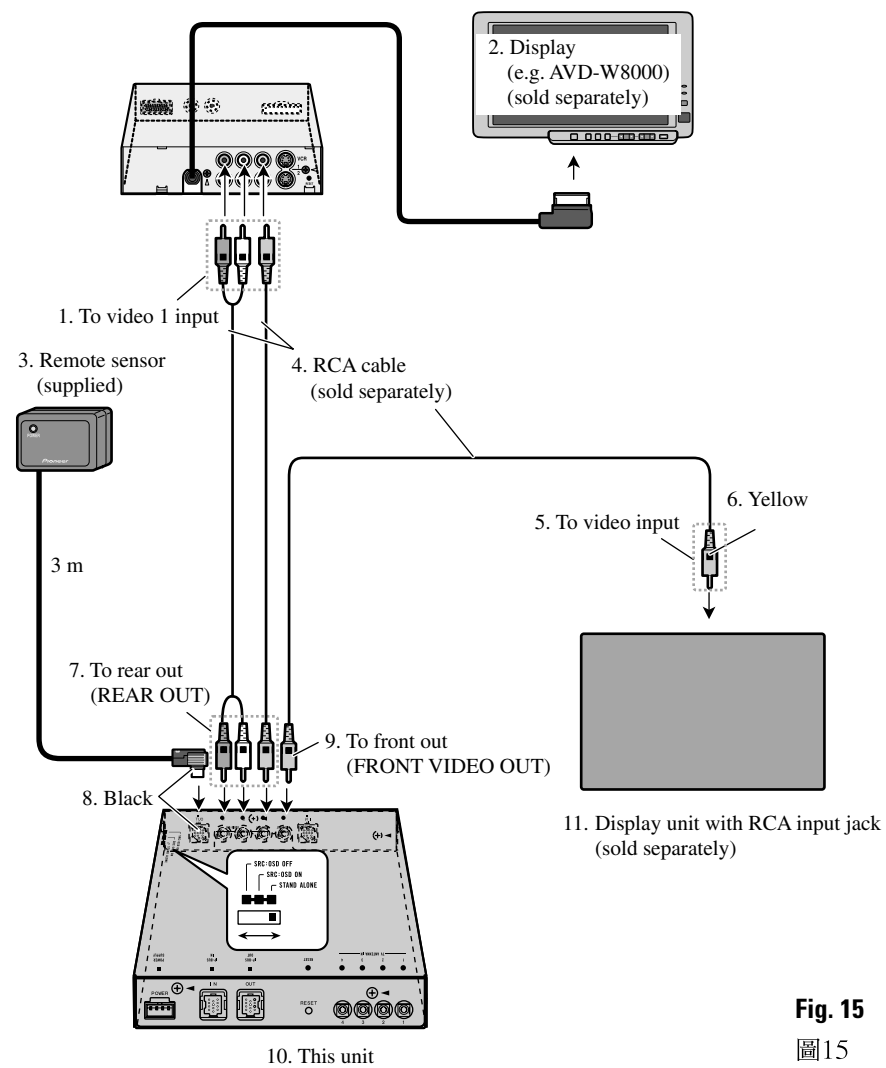

Fig. 15
■ When using this unit as "STAND ALONE" mode (Fig. 15)